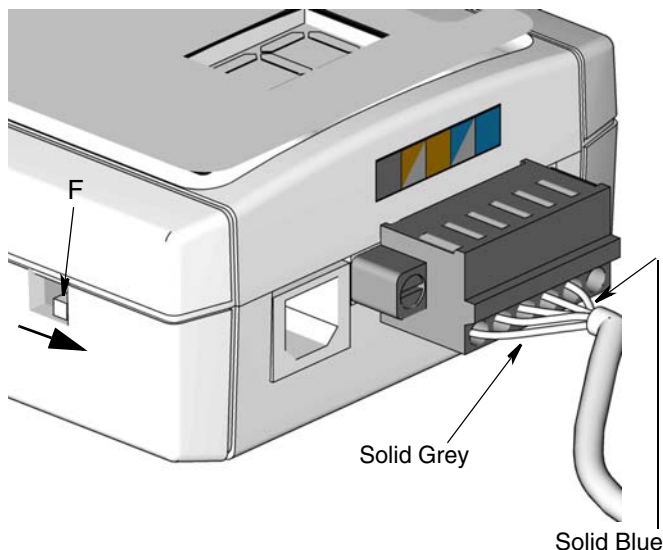

FIG. 9
NOTE: The Solid Grey and Solid Blue wires identified in FIG. 9 are identified as a reference to ensure correct orientation of components when connecting Transceiver to RS422 Cable
Note location and color of wires in Wiring Diagram (FIG. 9) to correctly connect RS422 cable to transceiver.
- Connect USB connector (1) to computer USB port (2). Plug end of power cord into Transceiver power inlet (A) first and then into a grounded 120 - 240 VAC power source.
- Be sure the Selection Switch (F) is set to the correct position for the RS422 connection. Refer to FIG. 9 for the switch settings.